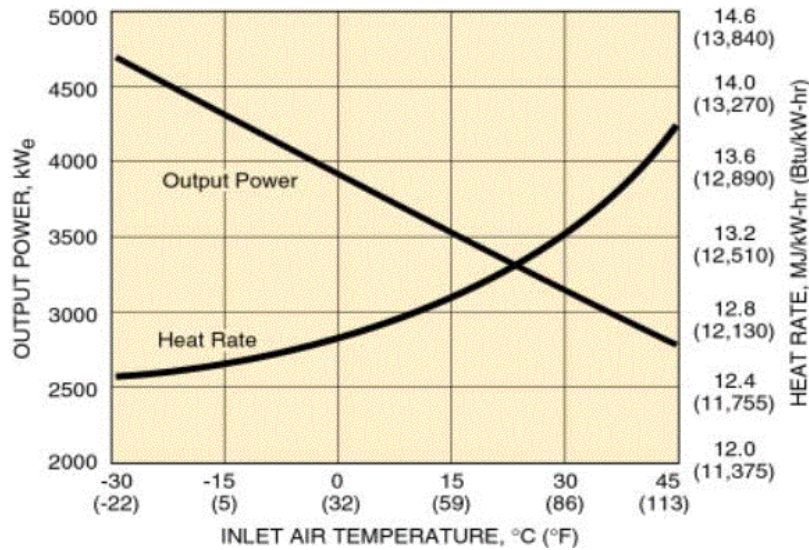

Figure 2-2 An Example of the Effect of Ambient Air Temperature on Power Output and Heat Rate
- **Figure 2-2** shows the effects of **air inlet temperature** on gas turbine **power output and heat rate**.